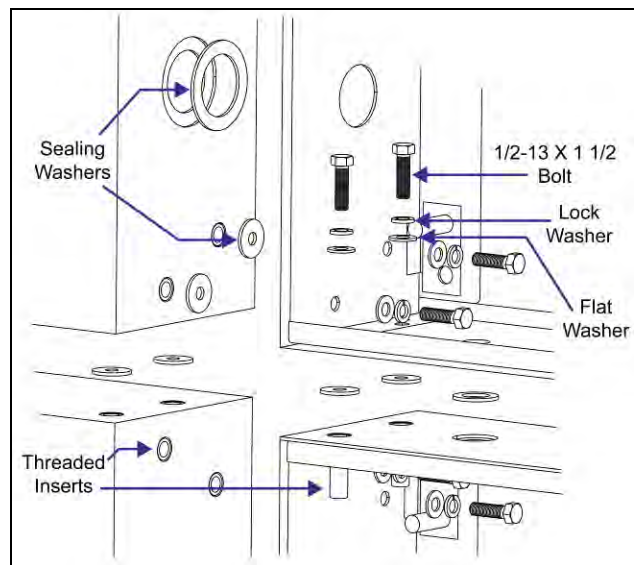

Figure 11: Section Connections
4. Remove the alignment pins and attach the sections together with $1/2"$ grade-5 (or stronger) bolts and flat and lock washers. Refer to **Figure 11** for an example.
5. If additional sections will be added for width, attach the sections left to right with $1/2"$ grade-5 (or stronger) bolts and flat and lock washers. Refer to **Figure 11** for an example.